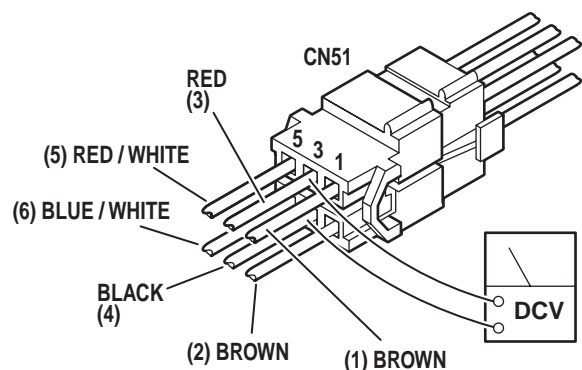

Figure 7-7. Connector CN51
1. Make sure all connectors are connected and turn AC120V operation ON. Using a DC voltmeter, test pin 3(+) and pin 4(-) of CN51. DO NOT disconnect connector CN51. See figure 7-7.